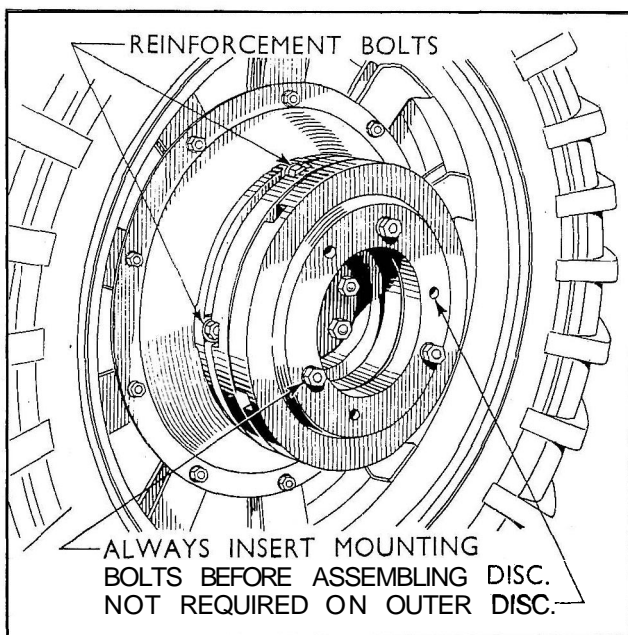

Fig. 230
- 1 Assemble the five reinforcement discs to the bolts, and insert the bolts from the inside of the wheel. If the wheel weight only is to be used, secure it to the wheel disc by the bolts, nuts and lockwashers (see Figs. 230 and 231).